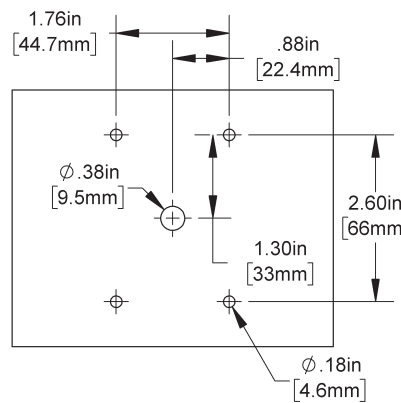

Fig 2: BAPI-Box Crossover Enclosure Mounting Holes
1. Choose an appropriate location on the duct and drill the probe and mounting holes as shown in Figs 2 & 3.